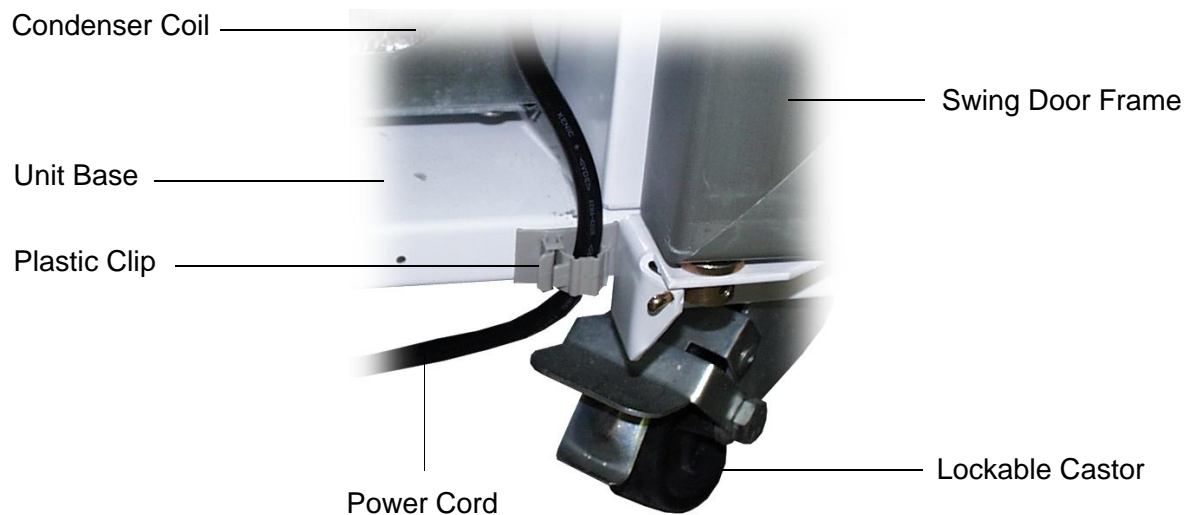

Figure 1: Power Cord Clip
3. Push the unit end of the power cord into the grey plastic clip on the front of the unit base and close the plastic clip over the cord, ensuring it is held firmly in place (see Figure 1 below).